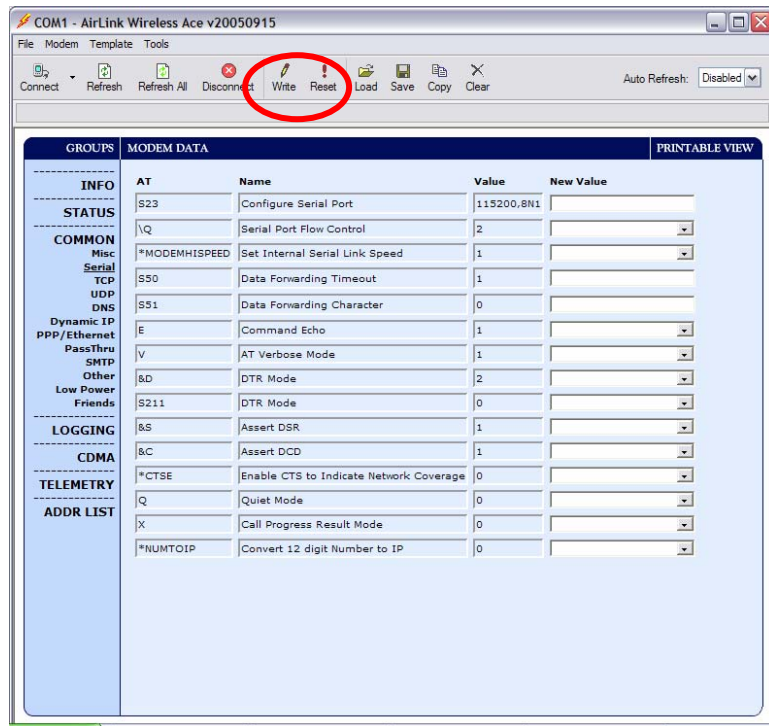

Figure 3 – Modem Data
4. Select the Serial option from the left side menu as shown below. This will take you to the Modem Data screen as shown in Figure 3 – Modem Data.
3. Select the Serial option from the right side menu, as shown on Page 7 in Figure 3 – Modem Data.